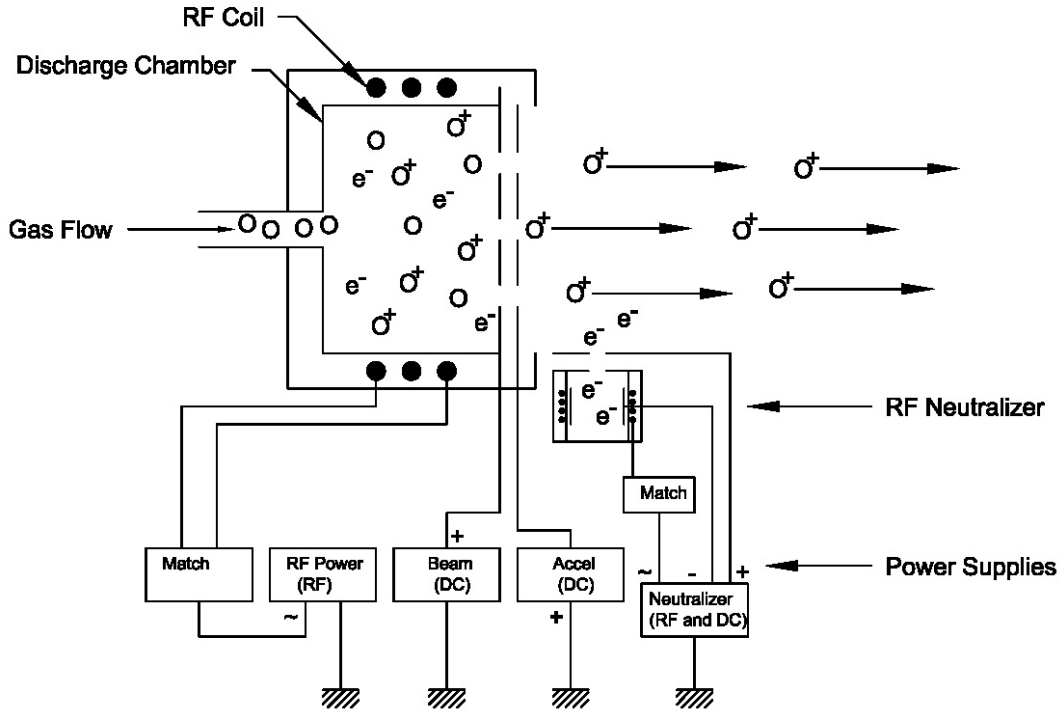

Figure 4. Electrical schematic for a RF source.
In Figure 4, the electrical connections for a RF source with RF neutralizer are presented. The RF coil for the discharge chamber is energized by the RF supply and is tuned by using a matching network. The beam supply, a DC bias supply, is connected to the screen (S) grid in order